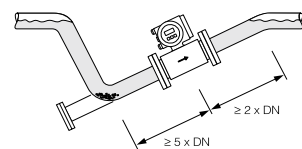

Figure 2: Installation in a siphon
- The flowmeter should then be installed in a siphon (Fig. 2)